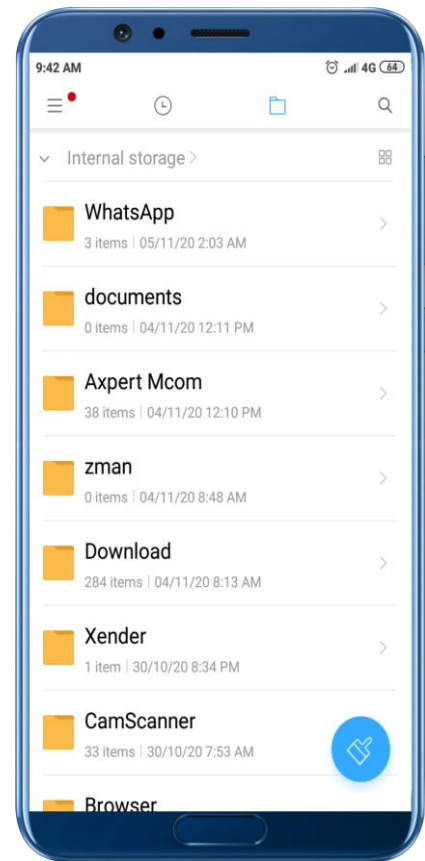

Figure 6: Folder in File Manager
- Also note that, a folder named “**Axpert Mcom**” will be created in internal memory storage (Figure 6).